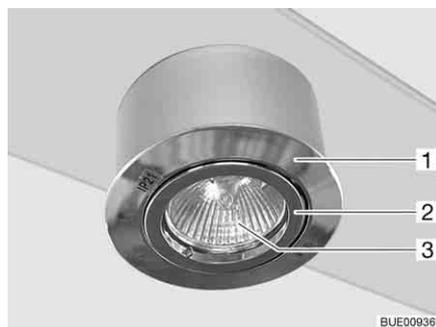

Fig. 219 Recessed halogen light (swivelling)
The recessed halogen light (Fig. 219,1) is installed flush with the ceiling lamp.
- Turn and remove the inner ring (Fig. 219,2).
- Remove halogen bulb (Fig. 219,3).